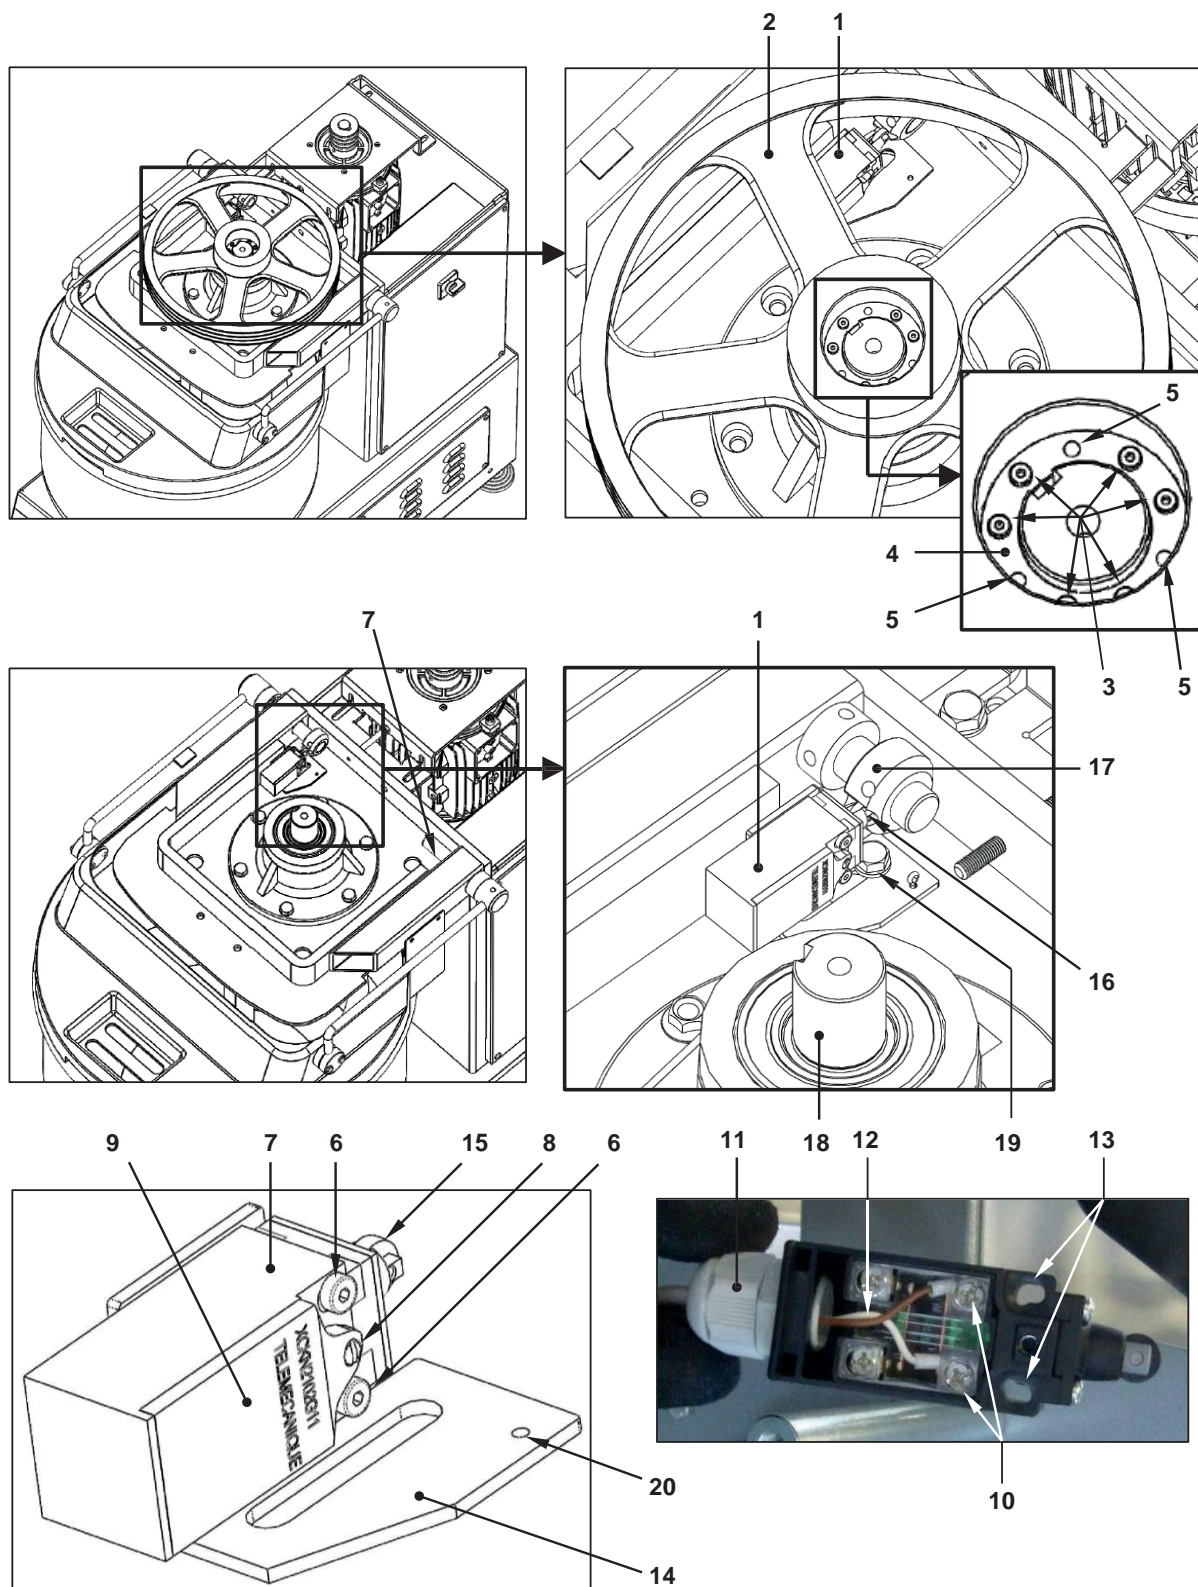

Figure 20 - Replacement of the micro-switch associated with the guard
With reference to Figure 20, where replacement is necessary of the/a micro-switch, proceed as follows (for machines equipped with no. 2 micro-switches in Figure 20 only one is shown with ref. 1, the other, ref. 7, only has the position indicated, but the replacement instructions are the same for both):